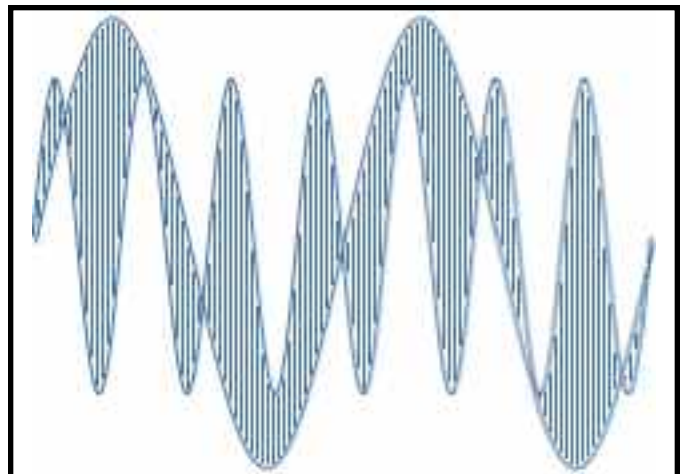

Figure 6a: This is what Fig. 3 looks like riding on top the main channel (L + R) signal.
of the main channel audio as shown in figures 6a and 6b.
However it is not actually necessary to reinsert the carrier; instead, it is only necessary to feed the signal of figure 6a into two switching tran-
Many hams are interested in learning about everyday radio. The AM mode of ham radio was superseded, starting in the 50s, by SSB. If you compare figures 3 and 5, as well as figures 6a and 7, you see two examples of a benefit of double-sideband suppressed-carrier (DSB) transmission over the double sideband with carrier (AM) transmission. Both are transmitting the same signal at the same level but if you consider the size of all that 'blue' in the figures represents power, you quickly realize that DSB uses less power to transmit a complex signal level. Thus, if you increase the power of the DSB signal to that of the AM signal, your level is higher.